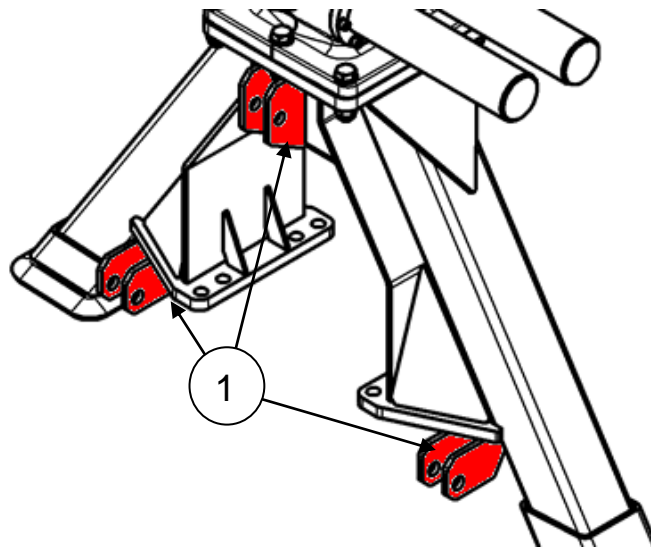

Figure 6.1 3-point linkage junctions on Palms 670 A-type support legs (B3)
Before mounting crane to the 3-point linkage (pos.1, fig. 6.1) make sure that: